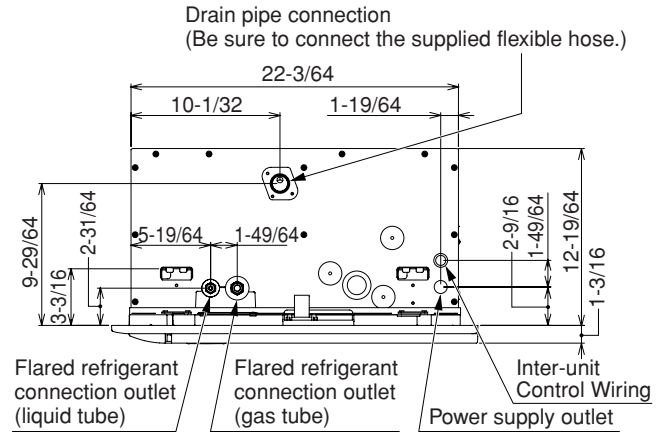

Fig. 3-30
- (3) Calculate the suspension bolt pitch using the full-size installation diagram (printed on the package). The relationship between the positions of the suspension lugs, unit, and ceiling panel is as shown in Fig. 3-30.